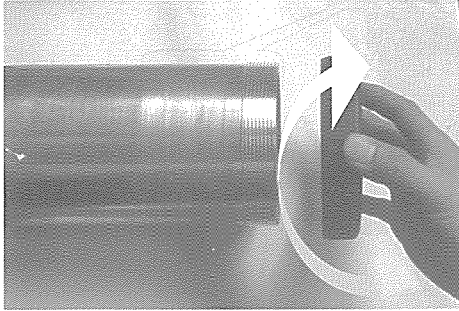

Fig 3
4.1.1 Install or change piling socket retainer. Select a corresponding retainer according to the sizes of the piling from 20mm-45mm or 46mm-80mm, as it's shown in Fig.3., such as